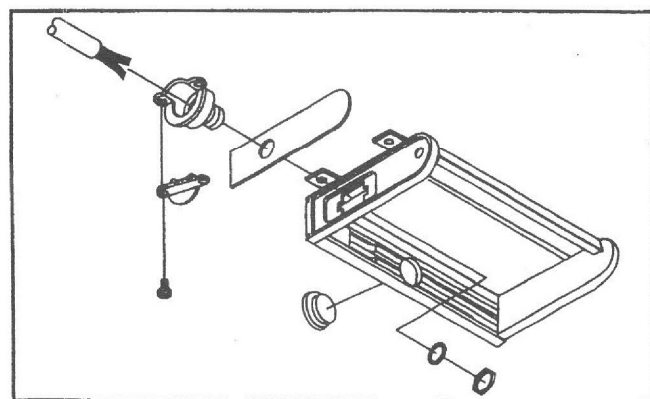

Figure 5.
3. If electrical feed is on the side, remove FMC/Romex connector (Lincs 100-1 only) and insert plastic plug. Squeeze the fasteners on each side of the Molex connector and push the Molex connector into the housing. Place the metal hard wire plate in place into the end of the plastic end cap. See Figure 5.